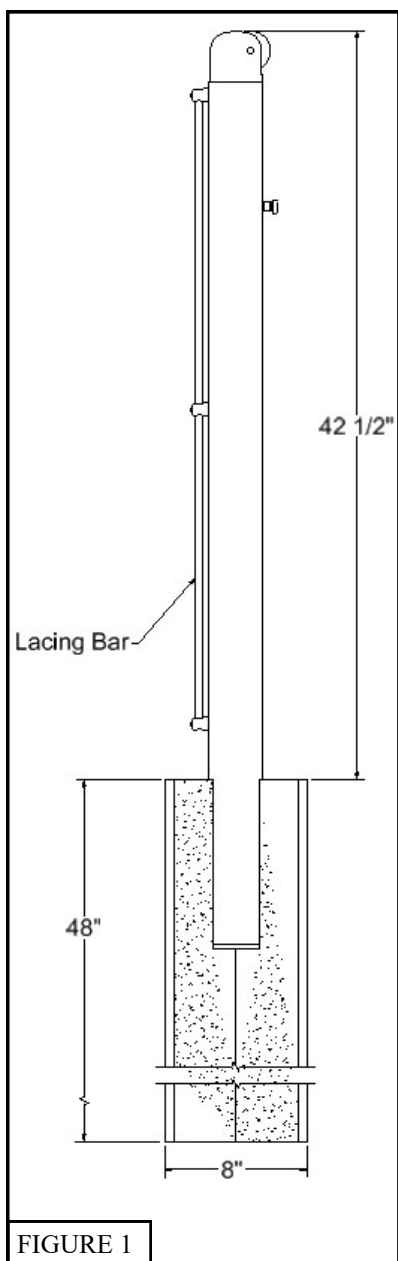

FIGURE 1
1. Use the attached court diagram to determine where to locate and dig two 8" round and 48" deep holes 42 feet apart. See Figure 1.
2. Insert *Winch* (A) and *Non-Winch* (B) posts into the holes with the lacing bars facing the tennis court and fill holes with concrete. Each hole will require between 6 and 8 1/3 cubic foot bag of concrete. Make sure to brace post while concrete is curing to maintain the 42 1/2" dimension and ensure the post remain perpendicular to the court surface. See Figure 1.